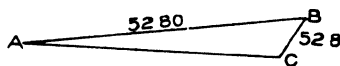

Fig. 12.
Solution: The per cent of a grade is the ratio of the number of feet rise per mile to the number of feet in a mile. Then for a 1 per cent grade we would have 1 per cent of $5,280 = 52.8$ ft. rise per mile. In Fig. 12, $AB = 5,280$ ft. and $BC = 52.8$ ft.
Solution: In Fig. 12, let B and C be the positions of the telescopes and A the distant ship. $BC = 225$ ft. and $\angle BAC = 1^\circ 30'$. From (13) $1.5 = \frac{1.5 \times \pi}{180} \text{ radians} = \frac{225}{AB}$